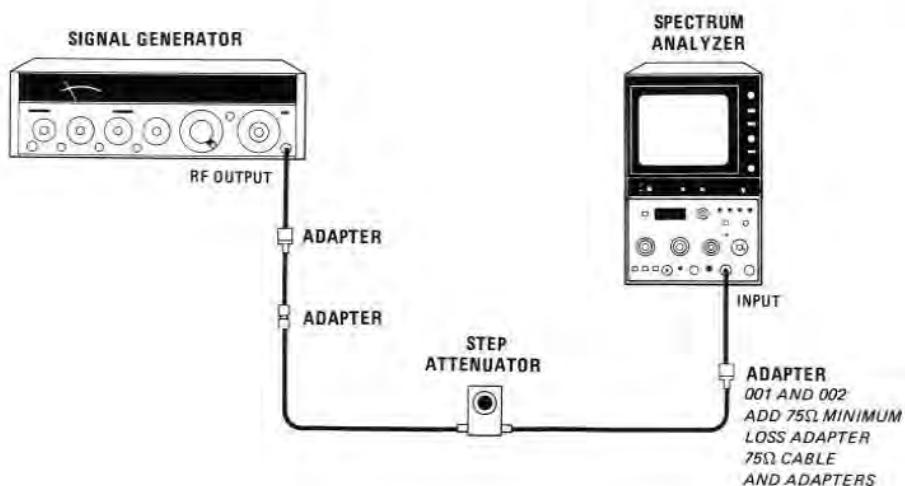

FIGURE 4-17. INPUT ATTENUATOR ACCURACY TEST SETUP
- Connect equipment as shown in Figure 4-17 with step attenuator set at 0 dB. Locate signal on CRT and adjust signal generator OUTPUT LEVEL until signal peak is 6 divisions above graticule baseline.